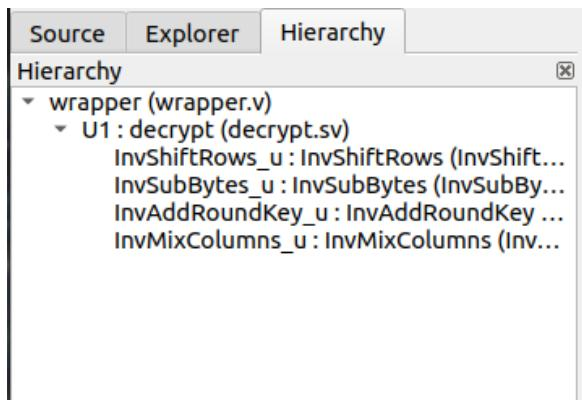

Figure 7. Hierarchical Viewer
- 5.1. View instances and module names defined in the project. Figure 7 shows an example and right-clicking allows user to go to the definition/instantiation of the instance.